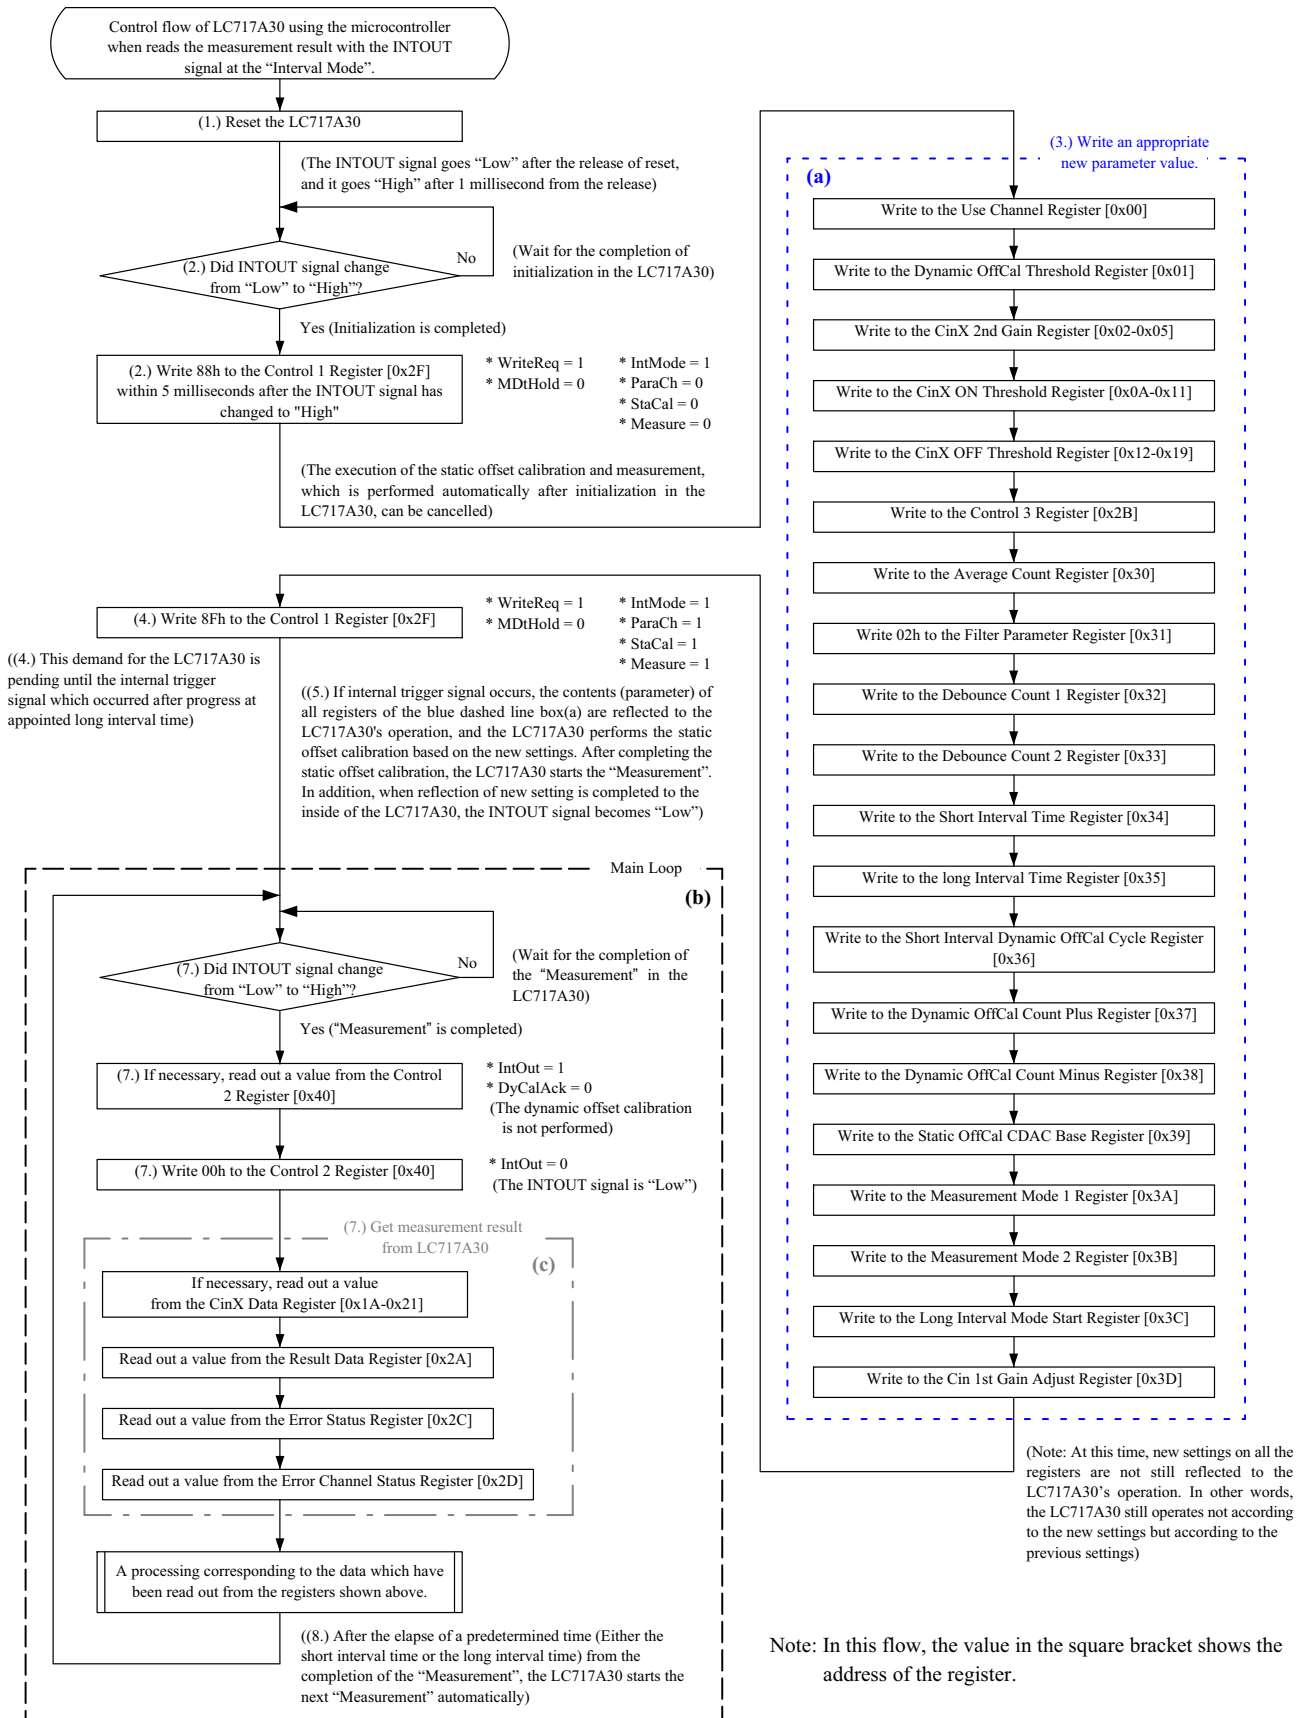

Figure 41. Control Flow Example When the Microcontroller Reads the Measurement Result with the INTOUT Signal at the "Interval Mode"
3. The microcontroller writes an appropriate parameter value to each register of the LC717A30 over the I²C bus or SPI. (For more information about registers the microcontroller may write a parameter to, refer to the inside of the blue dashed line box(a) on the control flow figure shown in Figure 41) Especially, in this example, the microcontroller writes “0” to both the INTMD1 bit and the INTMD2 bit in the Measurement 1 Register [Address=0x3A] so that the LC717A30 may not negate (“Low” level) the INTOUT signal automatically.